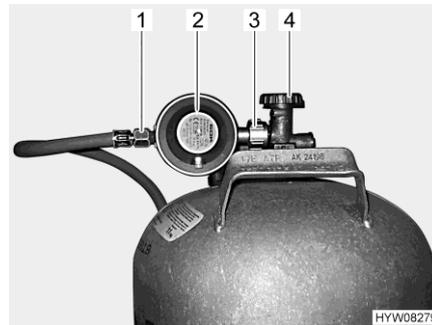

Fig. 66 Gas bottle connection
- Close the regulator tap (Fig. 66,4) on the gas bottle. Pay attention to the direction of the arrow.
- Hold the gas pressure regulator (Fig. 66,2) and open the knurled nut (Fig. 66,3) (normally a left-hand thread).
- Remove the gas pressure regulator and the gas tube (Fig. 66,1) from the gas bottle.
- Position the gas pressure regulator (Fig. 66,2) with gas tube (Fig. 66,1) on the gas bottle and tighten the knurled nut (Fig. 66,3) (normally a left-hand thread). **Do not** tighten too firmly.